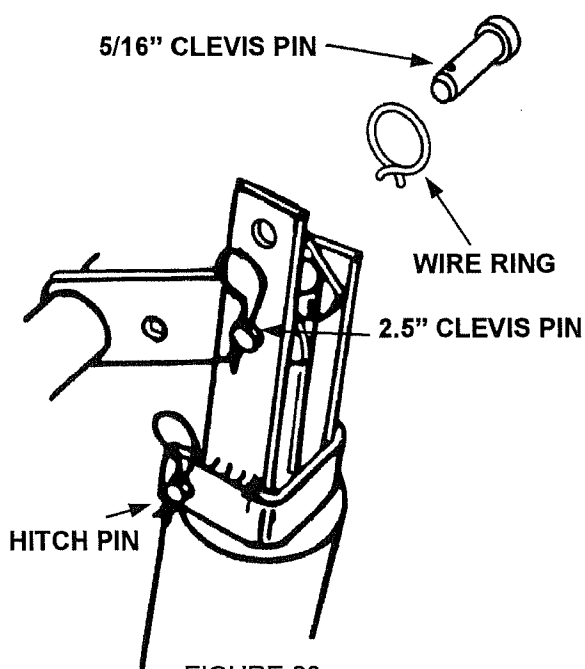

FIGURE 28
1. (See figure 28) Raise the 3PT hitch arms to maximum height. Block arms in place.